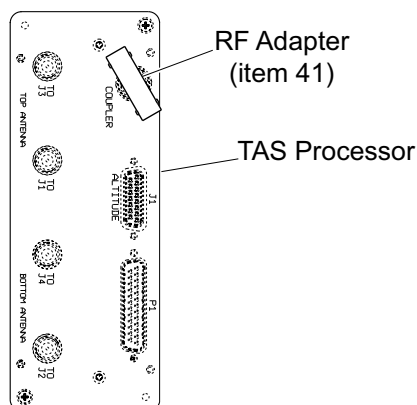

Figure 9.
9.9. Connect the RF adapter (item 41) to the coupler receptacle on the TAS processor. Refer to Figure 9.